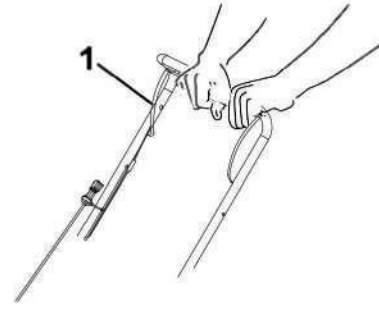

Figure 8
2. Hold the blade control bar (Figure 8) against the handle.